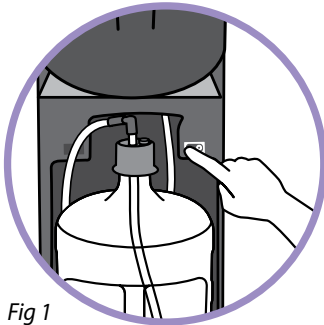

Fig 1
1. Slide the dispenser door up and turn off the hot tank heater switch (Fig 1). Let the unit stand for one hour before cleaning to allow the hot tank to cool.